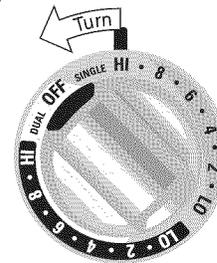

Figure 2
2. Push in and turn the control knob as shown in Figure 2 to heat the front portion of the Bridge element for normal shaped cookware or in Figure 3 for larger or rectangular shaped cookware.